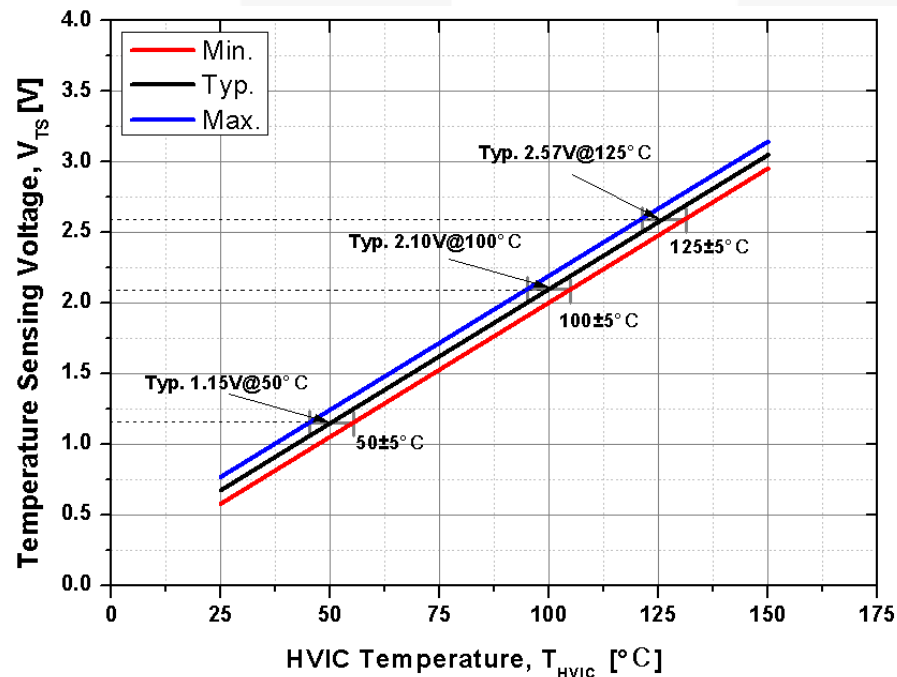

Figure 8. V-T Curve of Temperature Sensing (TS) Function
Figure 8 is V-T curve of Temperature Sensing (TS) function in Motion SPM[®] 7 Series.